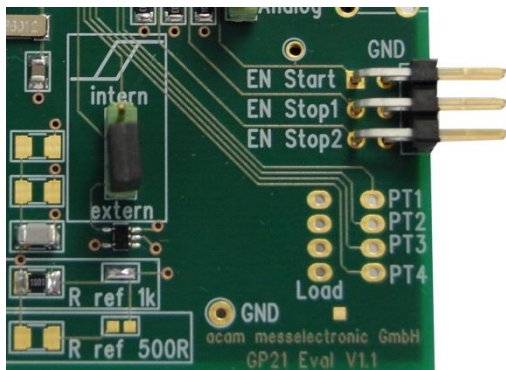

Figure 2.14: Hardware section for temperature measurement
- PT1+PT2: On board Reference resistor, connected by closing the corresponding soldering connector LJ6, LJ7 (see figure 2.14)